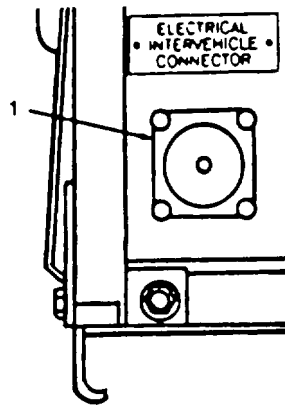

Figure 2-9. Heater Power Connection
- a. *Operation in Extreme Cold.* (Refer to Figures 2-9, 2-10, and 2-11.)
(1) Use proper viscosity engine oil for cold weather. Refer to Appendix F for the correct type of oil.